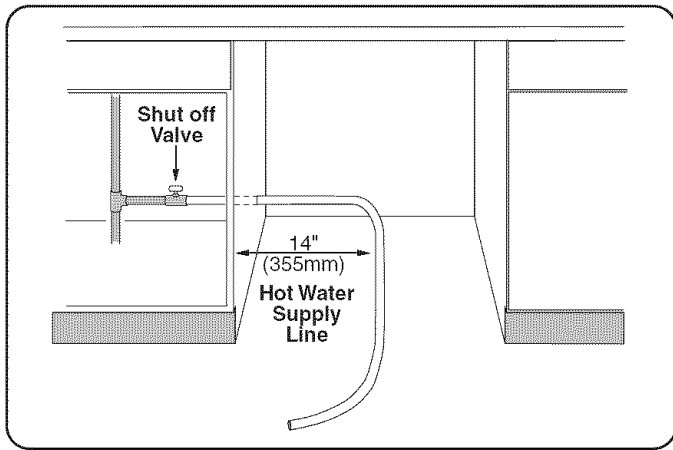

Figure 6
Install an easily accessible shut-off valve (not supplied) in the hot water supply line, as shown in **Figure 6**. All solder connections must be made before the water line is connected to the dishwasher's water inlet valve. Water may also be supplied to the dishwasher by using a braided hose line. Check with your local plumbing supply sources for the proper hose and 90° elbow fitting.
**NOTE:** Regardless of where the hot water supply line enters the enclosure, position the line 14" (355mm) from the enclosure's left side, as shown in **Figure 6**.